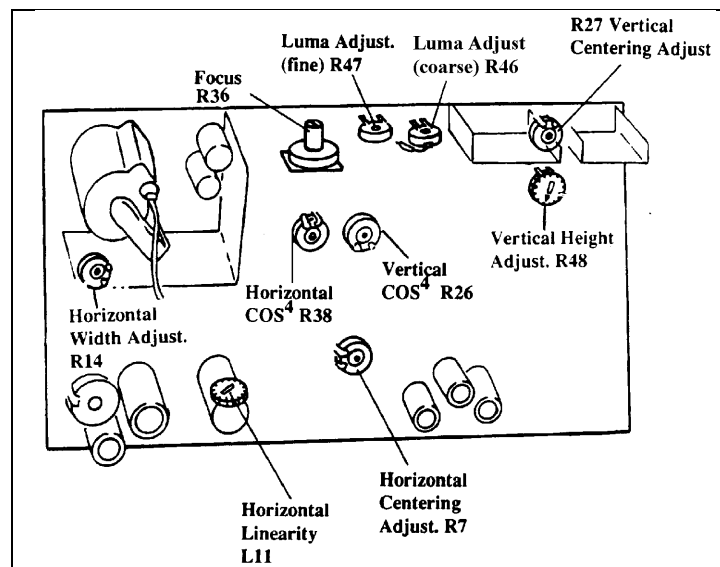

Figure 4-38. Alignment Adjustments on CI-5000 Monitor Board
2. Set the R46 luma adjustment (Figure 4-38) to make the image plainly visible on the ground glass of the alignment gauge (approximately 6 f-l or 3mV).
1. Make the following adjustments on the monitor board (Figure 4-38):
3. Set R27 and R7 on the monitor board (Figure 4-38) to their nominal (center) positions.